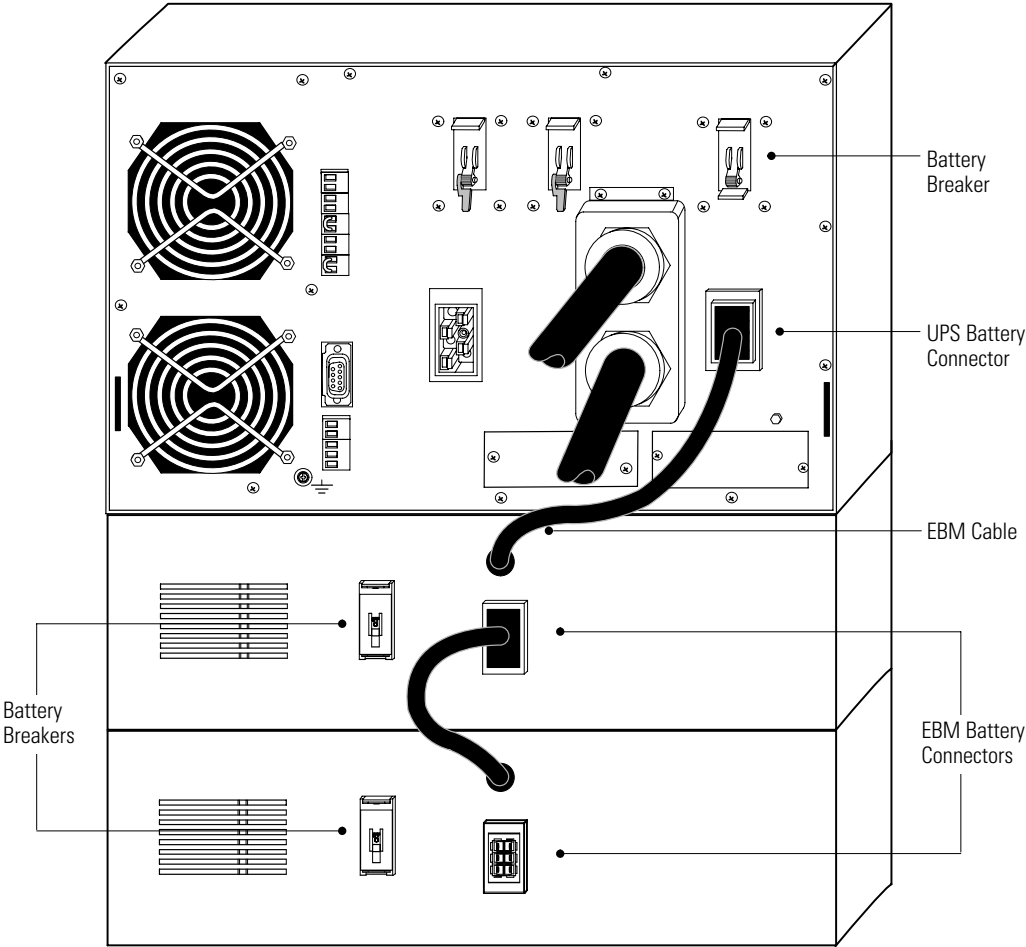

Figure 29. Typical EBM Installation
1. Verify that all battery circuit breakers are in the OFF (O) position (see Figure 29).
2. Plug the EBM cable(s) into the battery connector(s) as shown in Figure 29. Up to four EBMs may be connected to the UPS.